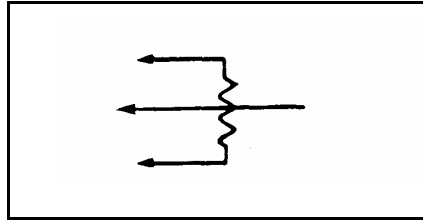

Figure 1-12. Bypass-Difficult Symbol
b. Bypass Difficult (*Figure 1-12*). This bypass has the same conditions as bypass easy, except that it will require some work to prepare the bypass. Preparation work will usually take less than 3 hours.